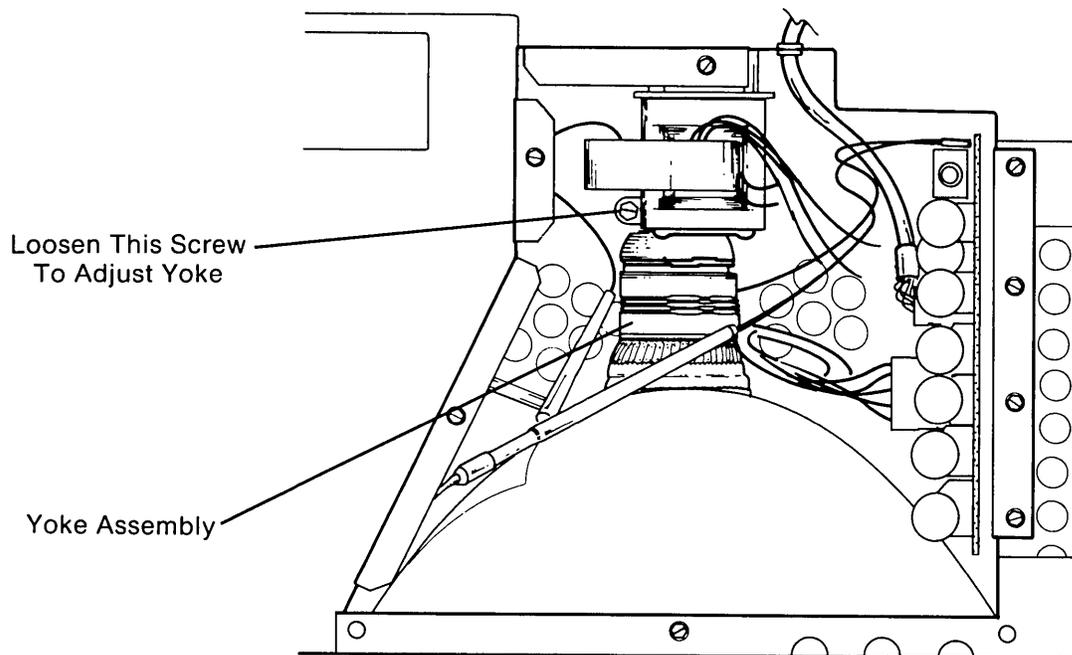

Figure 7-4. Yoke Assembly.
Step 4 - Remove the VDU Assembly access plate. Refer to Page 7-53 in this chapter for removal instructions. Adjust the positioning of the screen raster by carefully rotating the yoke assembly (see Figure 7-4). When the raster is correctly displayed, replace the VDU assembly access plate.